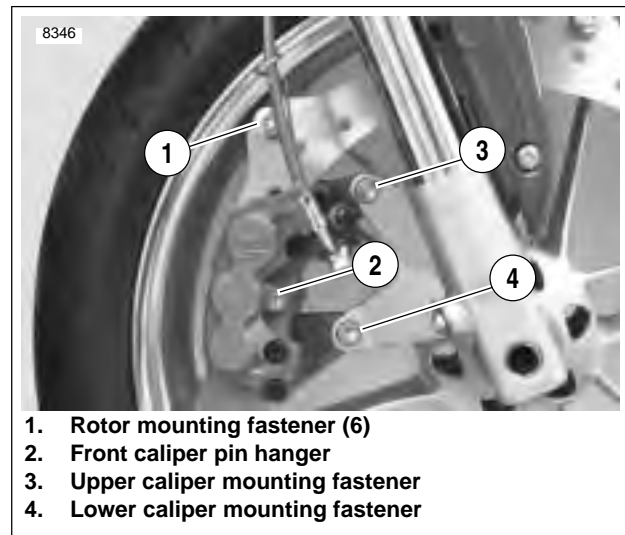

Figure 1-15. Front Brake Caliper
1. See Figure 1-15. Loosen pin hanger (2) but do not remove.
2. Rotate wheels so that caliper is centered between rotor mounting fasteners (1).
3. Remove lower caliper mounting fastener (4) that secures caliper to fork lower.
4. Loosen but do not remove upper caliper mounting fastener (3) that secures caliper to fork lower.
5. Remove pin hanger (2).
4. See Figure 1-15. Install pin (2) making sure it engages hole on both pads and spring clip.
6. See Figure 1-15. Install lower caliper mounting fastener (4).
8. Tighten pin (2) to 11-14 ft-lbs (15-19 Nm).